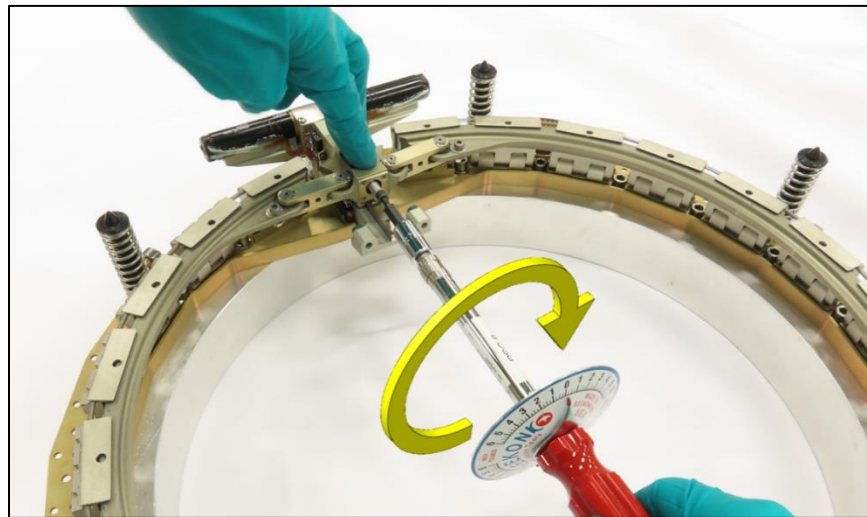
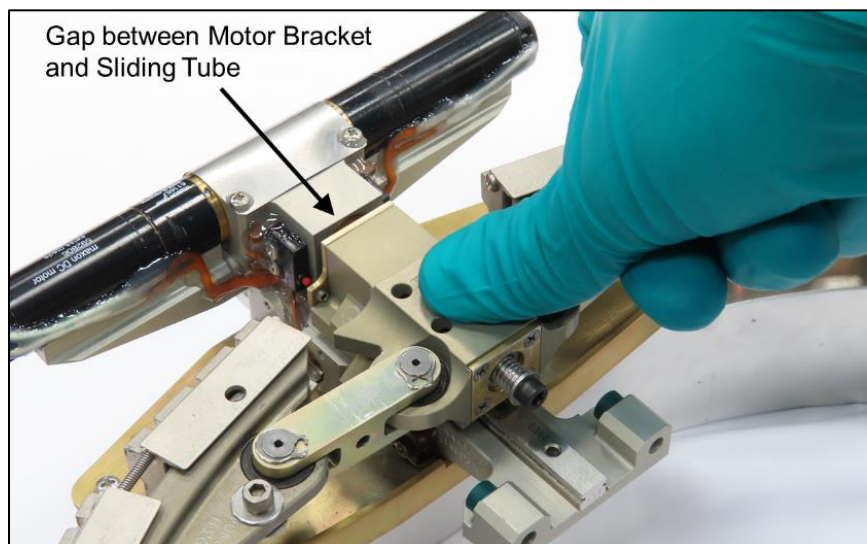

Figure 8-3: Rotating ball screw to allow Sliding Tube travel
Figure 8-4: Gap after rotating ball screw
8.1.5	<p>This step shall only be performed if required by Step 8.1.4. This is typically only necessary prior to the first mate (after unpacking the Lightband).</p> <ol style="list-style-type: none"> 1. Contacting only the top surfaces, push the Sliding Tube radially outward (towards the motors). 2. Then, while maintaining force on the Sliding Tube, use a 7/64 inch hex key to rotate the ball screw clockwise as shown in Figure 8-3. The Ball screw should rotate smoothly with very low running torque. If torque exceeds 1 in·lb, stop and investigate. 3. Continue rotating the ball screw until there is approximately a 0.1 inch gap between the Sliding Tube and Motor Bracket as shown in Figure 8-4. Note this will require approximately 35 full revolutions.